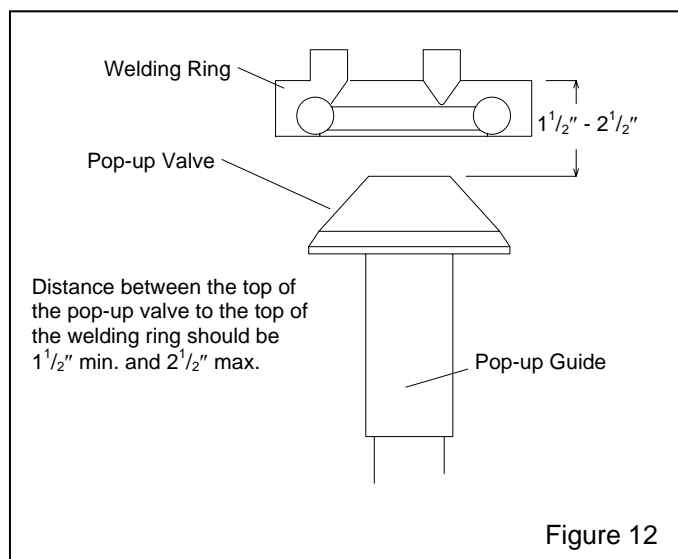

Figure 12
6.8.6 Refer to Figure 12 to check the pop-up height. If the pop-up sits too low, misalignment could occur when the pop-up comes up against the seal. If the pop-up sits too high, it will take longer for abrasive to flow through the opening. Adjust the height by replacing the guide with one that is longer or shorter.